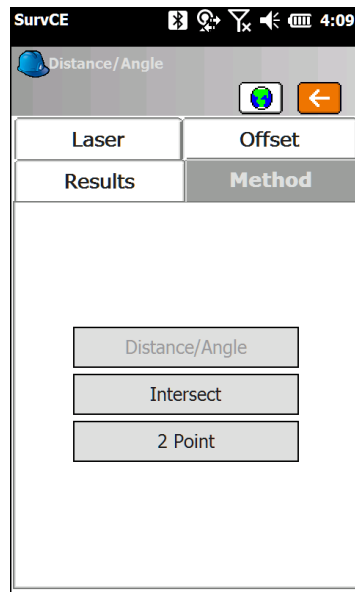

Figure 12
1. From the Offset screen, choose the Method tab and select Intersect (Fig.12)